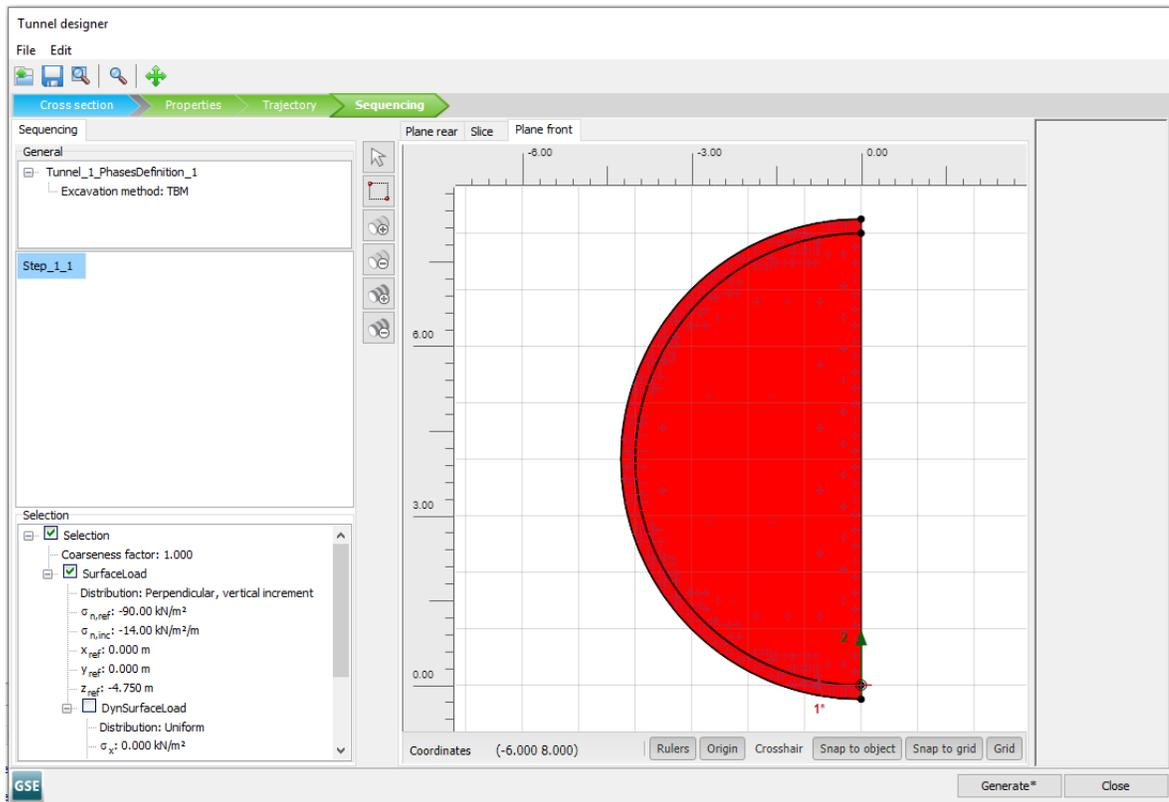

Figure 69: Plane Front tab in the **Tunnel designer** for Step_1_1
- Go to the **Plane Front** tab and select all the surfaces. Activate the surface load corresponding to the face pressure (Figure 69 (on page 95)).